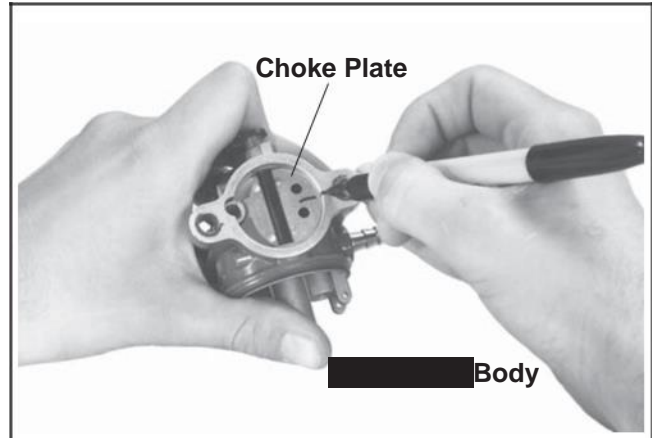

Figure 5-8. Marking Choke Plate and Carburetor Body.
1. Because the edges of the choke plate are beveled, mark the choke plate and carburetor body to ensure correct reassembly. See Figure 5-8.